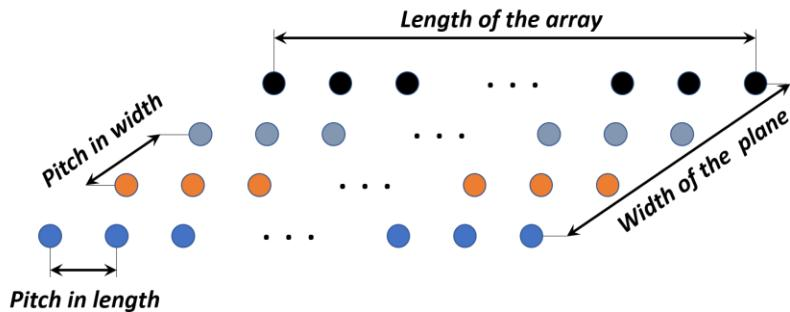

Figure 3-25: Planar array configuration
- **Number of detectors in length:** Number of detectors in a single linear array (the detectors with the same color in Figure 3-25).
- **Number of detectors in width:** Number of linear arrays were placed along the width of the plane (e.g., 4 in Figure 3-25).